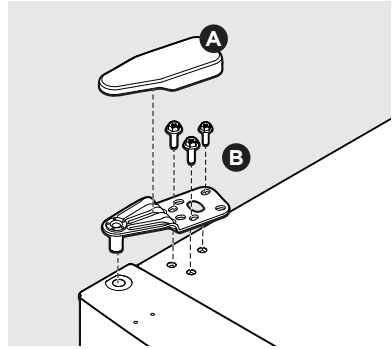

Figure 11
28. Reattach the top hinge (B) onto the left side of the cabinet, using a 5/16" wrench. Replace the top hinge cover (A) (see Figure 11).